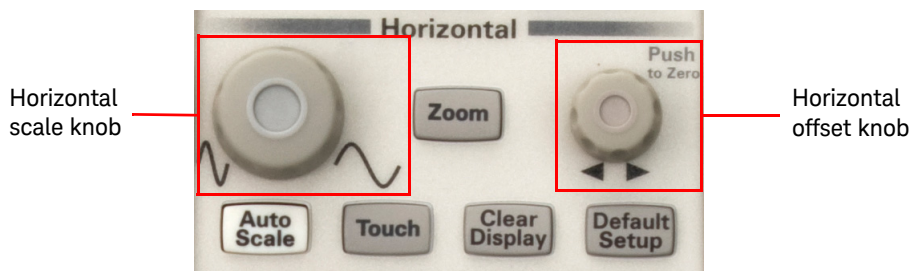

Figure 2-17 Horizontal scale and offset knobs in the Horizontal section
- 1 To adjust the horizontal scale, turn  in the Horizontal section as shown in Figure 2-17.
- 3 To adjust the horizontal offset, turn  in the Horizontal section as shown in Figure 2-17.